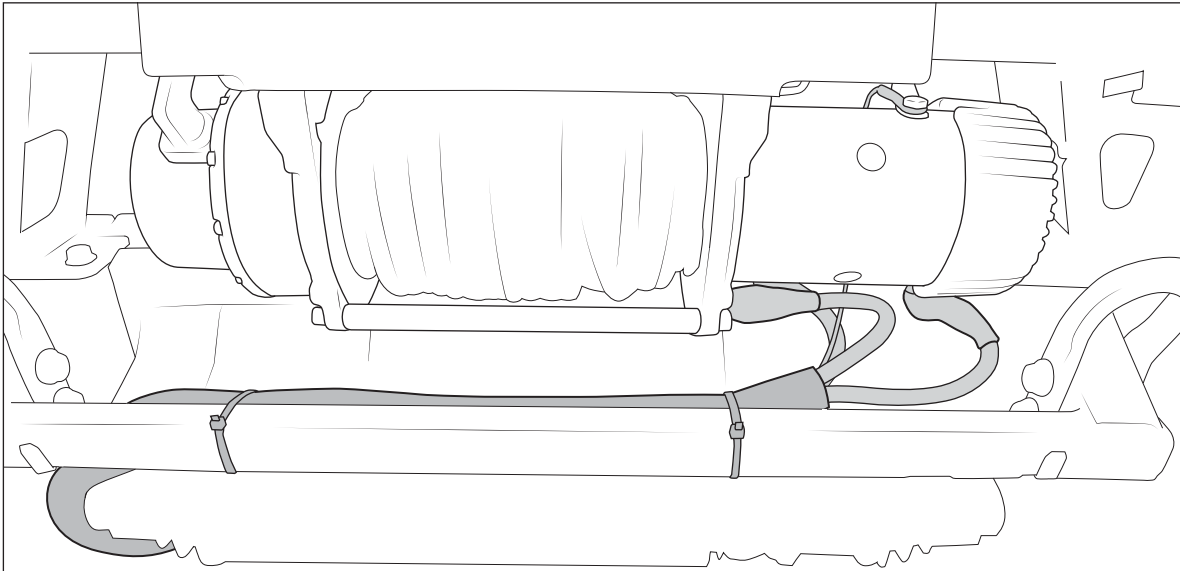

Figure 18
9. Connect wiring to winch (fig. 18).